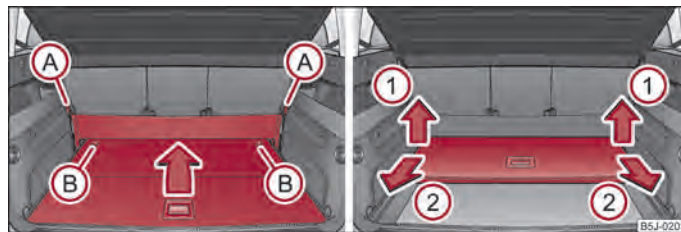

Fig. 49 Luggage compartment: Fold up variable loading floor/remove
- Unhook the loops (A) ⇒ fig. 49 of the elastic partition out of the fixing points.
- Unlock the variable loading floor by turning the locking bolts (B) by approx. 180° to the left ⇒ fig. 49.
- Lift up the variable loading floor in direction of arrow ① ⇒ fig. 49 and remove it by pulling in direction of arrow ② ⇒ fig. 49.